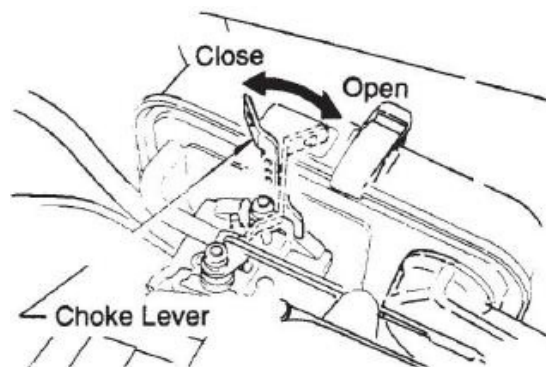

Fig 7
3. Close the choke lever (Fig 7) and move the throttle lever to the Full Open position. Turning the choke lever 90 degrees clockwise closes the choke. In cold weather, start the unit with choke fully closed. In warm weather or when the engine is warm, the unit can be started with choke halfway or completely open.
5. If engine fails to start, move the choke lever (Fig 7) to the half open position to avoid flooding.